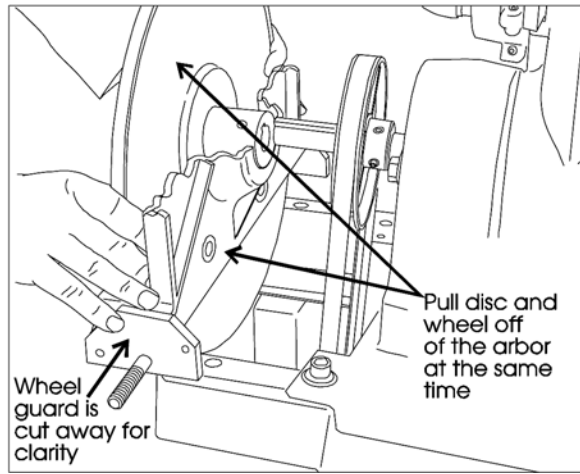

Figure 13: Removing the guard and drive disc, together.
9. Slide the disc and its guard off of the machine, together (See Figure 13).